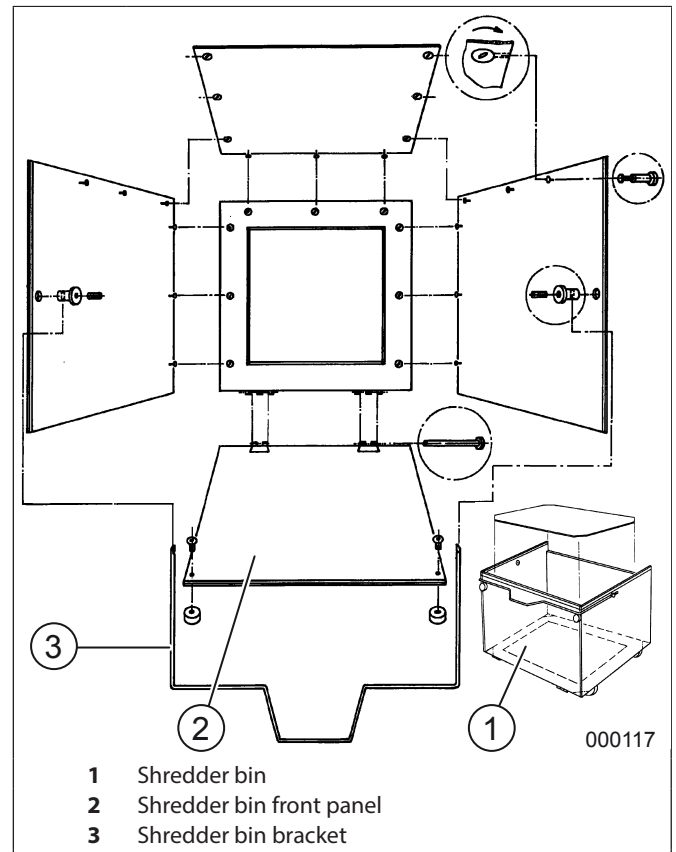

fig.2 Installing the shredder bin
3. Connect the front panel (fig. 2/2) to the base frame using the hinge bolts supplied (insert the hinge bolts into the hinges from the outside).
4. Insert the bracket hinge bolts through the side panels, as illustrated. Then, place the ends of the bracket (fig.2/3) through the holes in the hinge bolts, and finally, secure the bracket using the two locking screws.